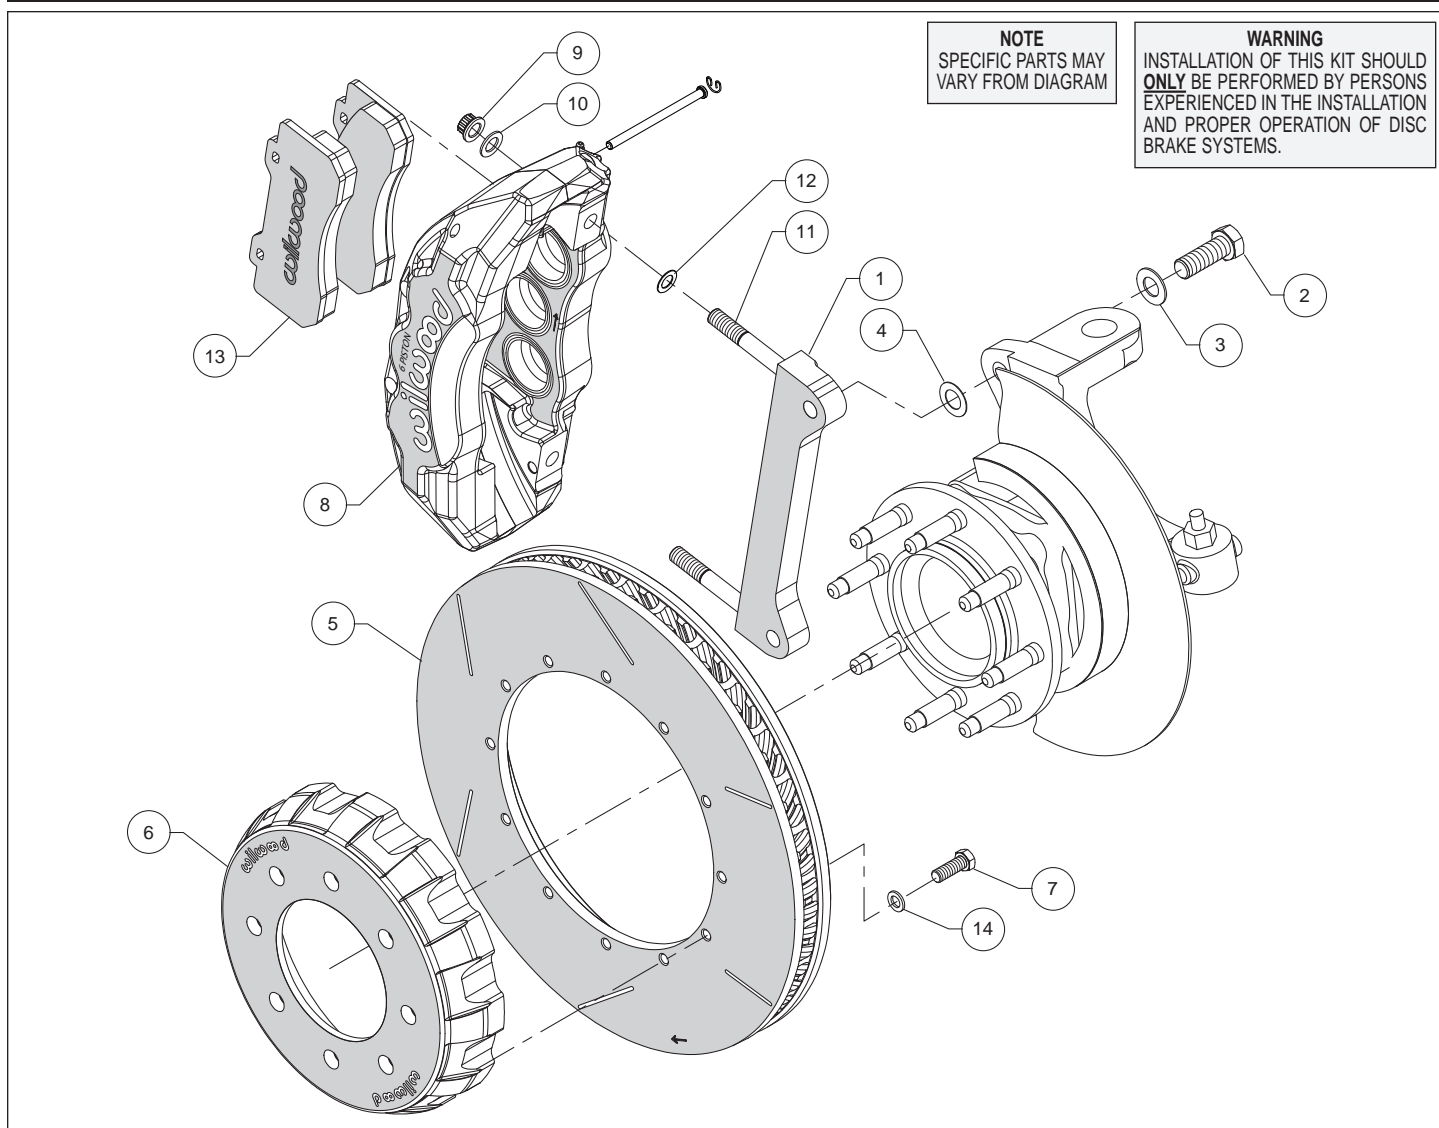
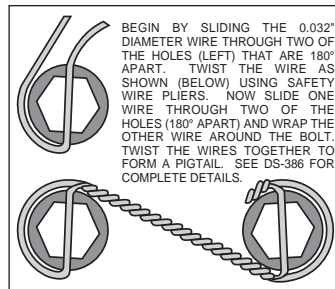

Figure 1. Typical Installation Configuration
Figure 3. Safety Wire Diagram
Assembly Instructions (numbers in parenthesis refer to the parts list and Figure 1 on the preceding pages):
- The caliper mount bracket (1) should initially be installed with clean, dry threads on the mounting bolts. Orient the bracket as shown in Figure 1 and Photo 1, and install using bolts (2) and washers (3). Initially place one .024 thick shim (4) on each bolt between the bracket and upright, Figure 1. Temporarily tighten the mounting bolts. **NOTE:** *The bracket must fit squarely against the mount bosses on the upright.* Inspect for interference from casting irregularities, machining ridges, burrs, etc. Later, after the caliper alignment has been checked, the mount bolts will be secured using red *Loctite*® 271.
- Orient the rotor (5) and the hat (6) as shown in Figure 1 and Photo 2. Attach rotor to hat using bolts (7) and washers (14). Using an alternating sequence, torque to 25 ft-lbs. For an added measure of security, the bolts may be safety wired using standard 0.032 inch diameter stainless steel safety wire as shown in Figure 3. Please refer to Wilwood's data sheet DS-386 (available at www.wilwood.com/Pdf/DataSheets/ds386.pdf) for complete safety wire installation instructions.
- NOTE:** *This kit contains distinct right and left hand calipers that must be mounted in a specific direction, as described below.* Lubricate the caliper mounting studs (11) with lightweight oil. Initially place one .032" thick shim (12) on each stud as shown in Figure 1 and Photo 3. Mount the caliper (8) onto the bracket (1) using lock nuts (9) and washers (10), Figure 1. Ensure that the caliper is mounted so that the largest pistons are at the rotor exit end of the caliper, in relation to the direction of rotor rotation. Temporarily tighten the lock nuts and view the rotor through the top opening of the caliper. The rotor should be centered in the caliper, Photo 4. If not, adjust by adding or subtracting shims (4) between the bracket and the upright. Always use the same amount of shims on each of the two mounting bolts. Once the caliper alignment is correct, remove the bracket mounting bolts (2) one at a time, apply red *Loctite*® 271 to the threads, and torque to 120 ft-lb.